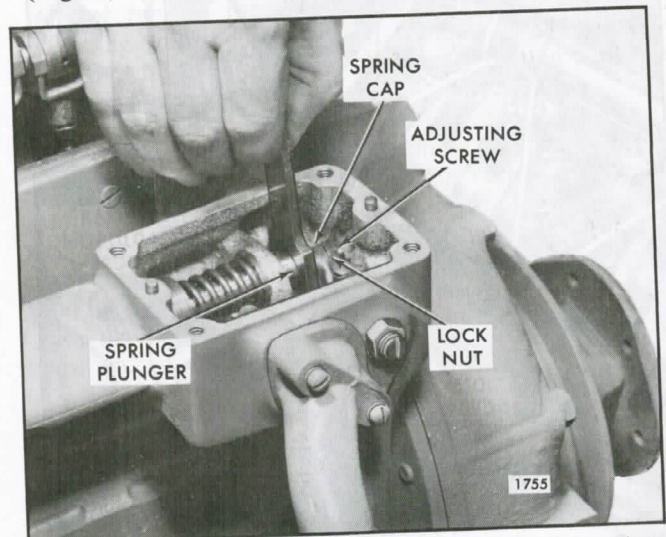

Fig. 2 - Adjusting Gap (Single-Weight Governor) using Tool J 5407
6. Check the gap between the low-speed spring cap and the high-speed spring plunger with gage J 5407 (.170") - (Fig. 2).